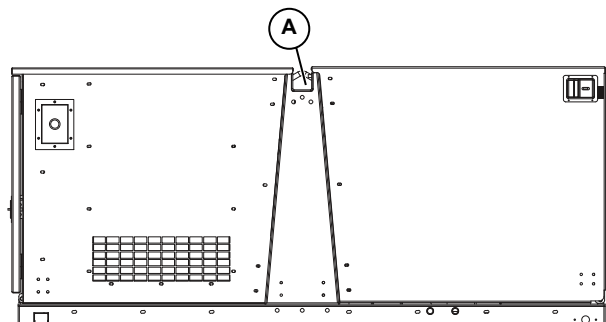

Figure 3-10. Lifting Points
3. See Figure 3-10. Attach any slings, chains or hooks directly to the central lift point (A).